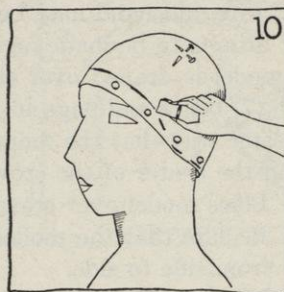

FIG. 10.
- (5) Follow Section (4) above, but at direct sides and back, use the measurements that are written down in Section 4 f, (2) (b) (page 45). (These chalk marks will be the guide in chalking the shaped headsize line in Section (6).)
- (6) Connect chalk marks with a gradual curved line (see Figure 10).
- (7) See if your chalk marks are correct.
- (d) Repeat Sections (7) (a), (b), and (c) at the direct side chalk marks on the crown that you are making and at the direct side of the crown of the model.